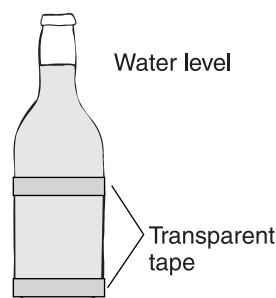

Figure 1.
3. Wrap transparent tape around the bottom of the bottle and half-way up the bottle (see Figure 1). This will help contain any broken glass once the bottom cracks out.
4. Fill the bottle about three-quarters to seven-eighths full with water so that the water level is in the neck of the bottle, just above the wider “body” part of the bottle (see Figure 1). Add food dye if desired.